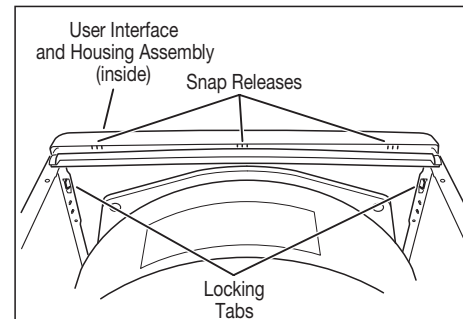

Figure 18. Remove the console panel to access the user interface and housing assembly.
3. The console panel has two locking tabs on the left and right rear, one locking tab on the bottom (hidden), and three snap releases across the top. See figure 18. Press the locking tab on the right rear, and gently rotate the console panel up as you pull the top free of the three snap releases, finally pressing the locking tab on the left, and lift the console panel off.